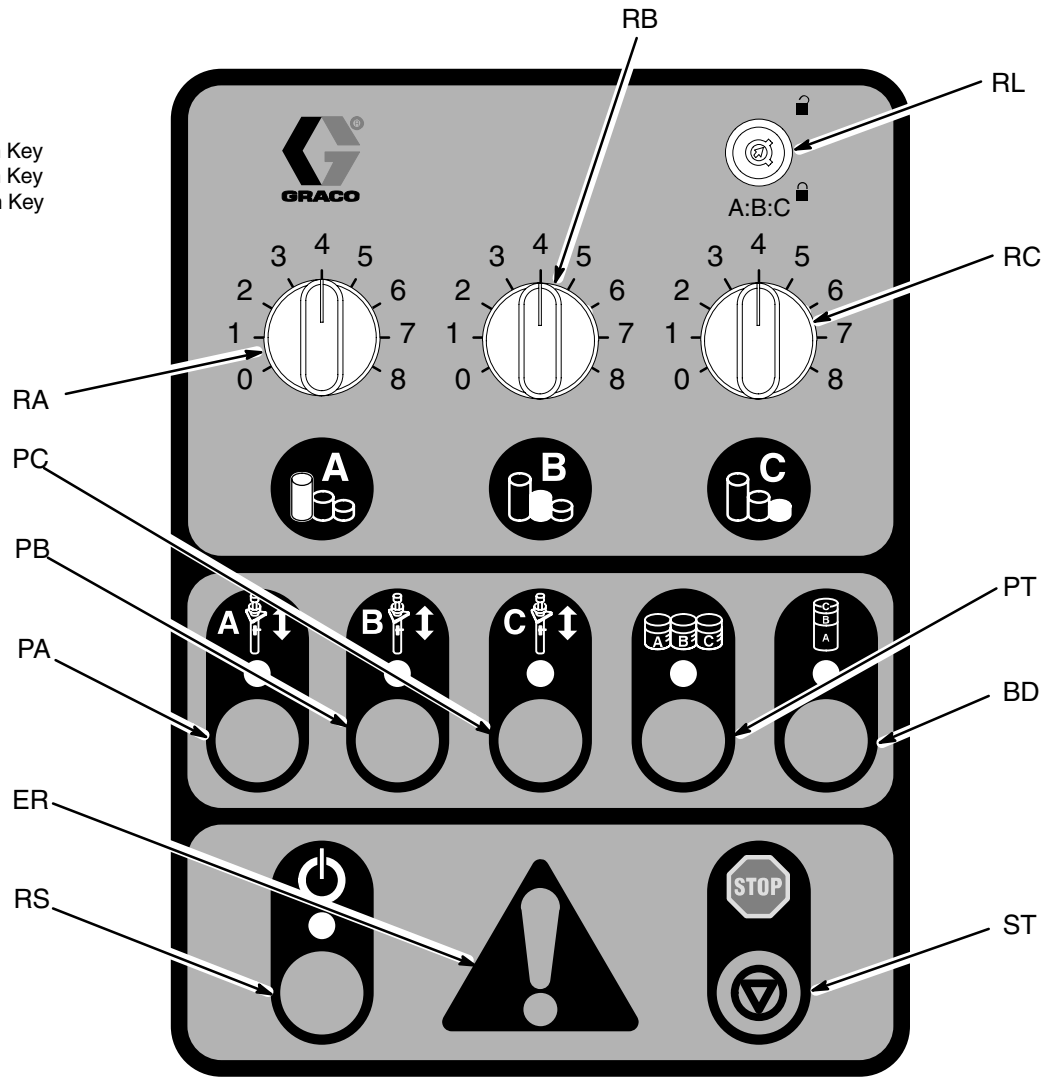

Fig. 7
5. Set the sample valves (E) to the spray position (up).
7. Turn the fluid regulator on the mix manifold (V) clockwise to the fully open position.
8. Set the spray/flush toggle switch (Z) to the spray position (up).
9. Open the bleed-type master air valve (F).
10. Set the pump air regulator (H) to a maximum of 15 psi (0.1 MPa, 1 bar). Do not open the gun air regulator (G) yet.
11. See Fig. 7. Press the pump A independent run key (PA). Gradually open the pump air regulator (H) until the pump begins to cycle. Pump A will run independently and will dispense enough component A to prime the pump and fill the component A fluid line to the gun (AC). Trigger the gun into a grounded waste container until component A flows from the gun. If necessary, press the key again to dispense the required amount.